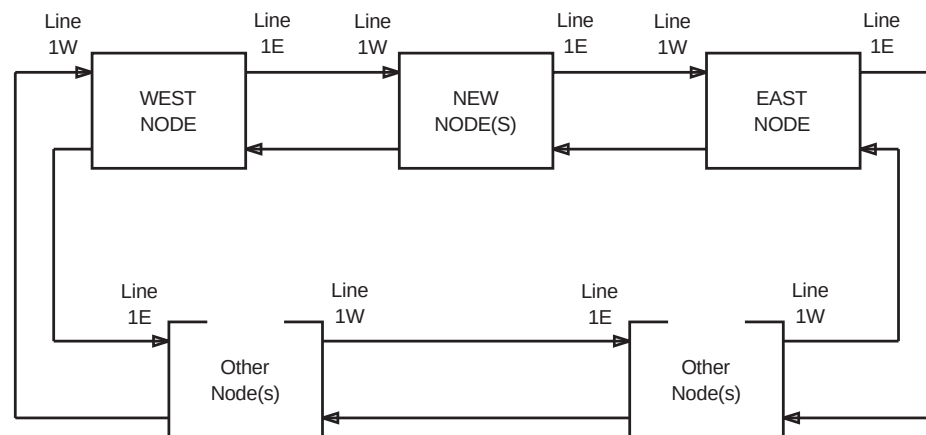

Figure 5 – Ring Network With New Node
Refer to Figure 5. The forced switch at the West node can now be reset.
18. Refer to Figure 5. The forced switch at the East node can now be reset.